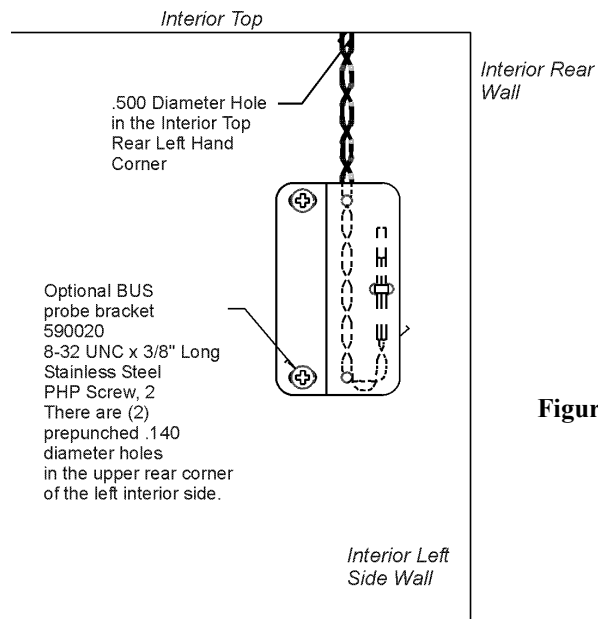

Figure 5-4
10. Locate the 0.500" pre-punched hole in the upper left hand back corner of the chamber ceiling. Remove the tie wrap securing the coiled probe/solenoid harness. Uncoil the probe lead and run the probe tip (approximately 12") down through 0.500" porthole (Figure 5-4).
12. Mount the bracket on the interior left wall of the freezer into the pre-punched holes provided. Figure 5-4 shows the Back-Up probe mounted on the interior left side wall of the freezer.